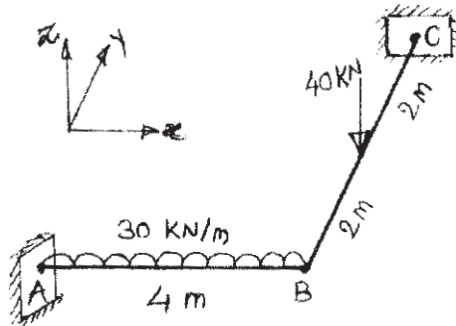

Figure 4
- Q4)** A balcony grid ABC shown in figure 4 is in xy plane. Ends A and C are fixed. Member AB is subjected to uniformly distributed load of intensity 30 kN/m and member BC is centrally loaded by 40 kN . Take $EI = 1600 \text{ kN.m}^2$ and $GJ = 800 \text{ kN.m}^2$ for both AB and BC, find unknown joint displacements at B. [18]